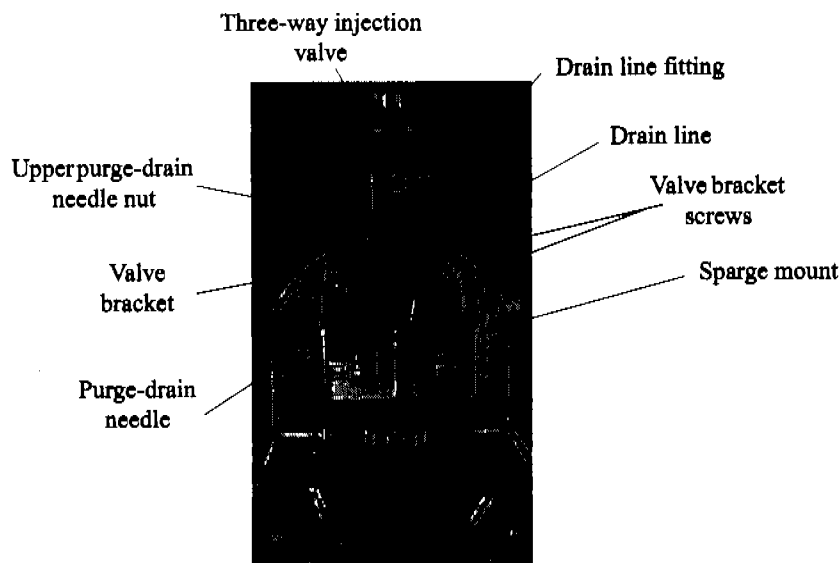

Figure 3.3. Removing the three-way injection valve
3. Disconnect the drain line from the three-way injection valve by loosening the Cheminert® ¼-28 drain line fitting (Figure 3.3).